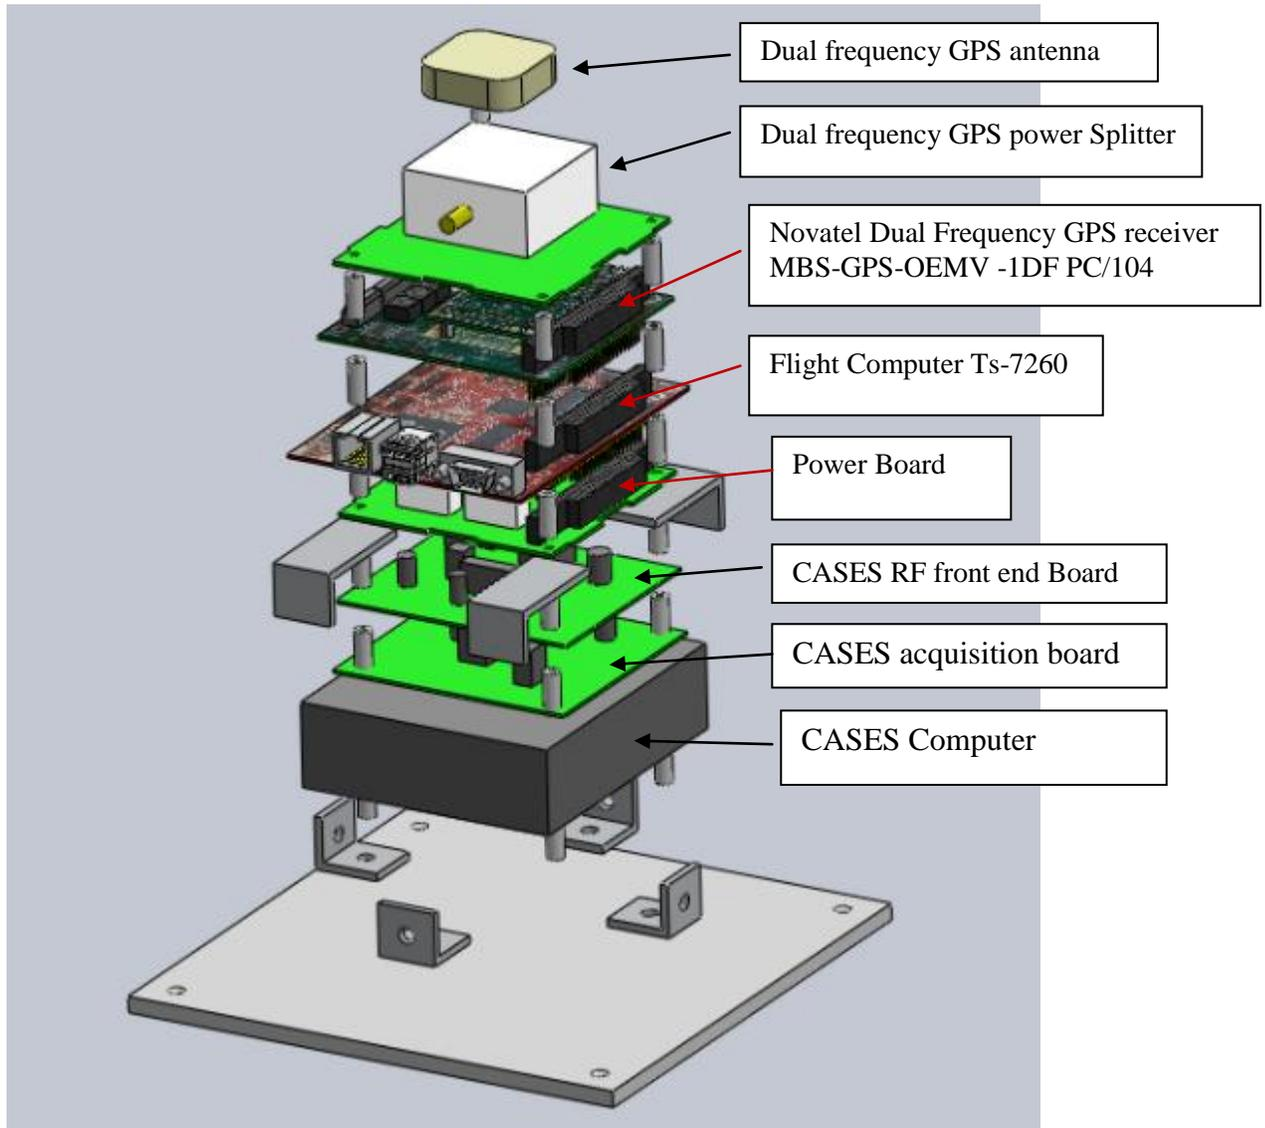
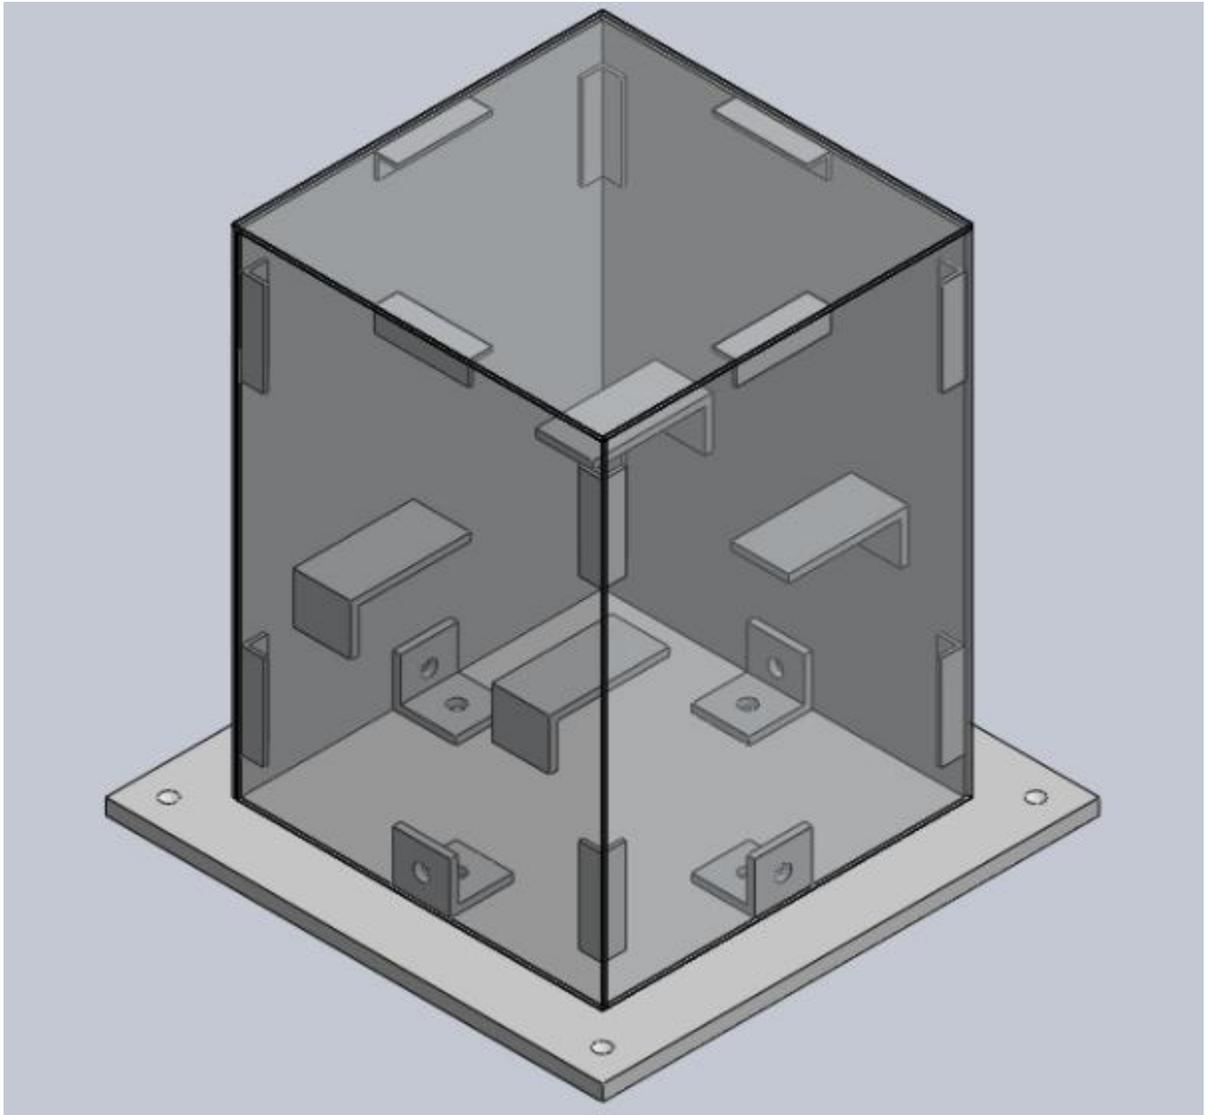
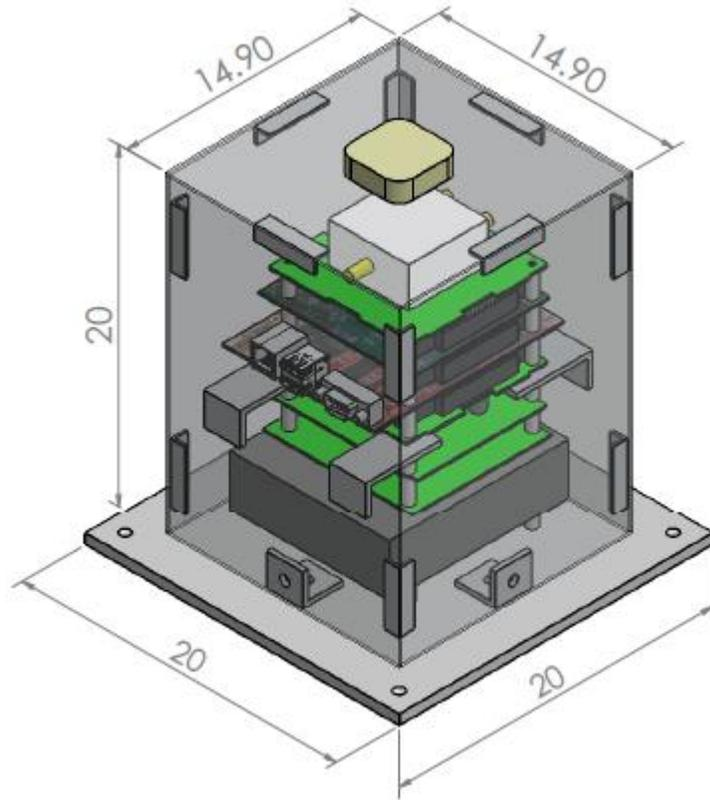

Figure 1: ARIES GPS payload major components
Figure 2: how the payload will be attached to the mounting plate
Figure 3: ARIES GPS payload design and dimensions.
B. Provide a mechanical drawing detailing the major components of your payload and specifically how your payload is attached to the payload mounting plate. Several Solid Work designs were developed to addressing this point. **Figure 1** show the ARIES GPS payload major components and **figure 2** show how the payload will be attached to the mounting plate. In addition the **figure 3 and 4** illustrates the ARIES GPS payload design and dimensions.